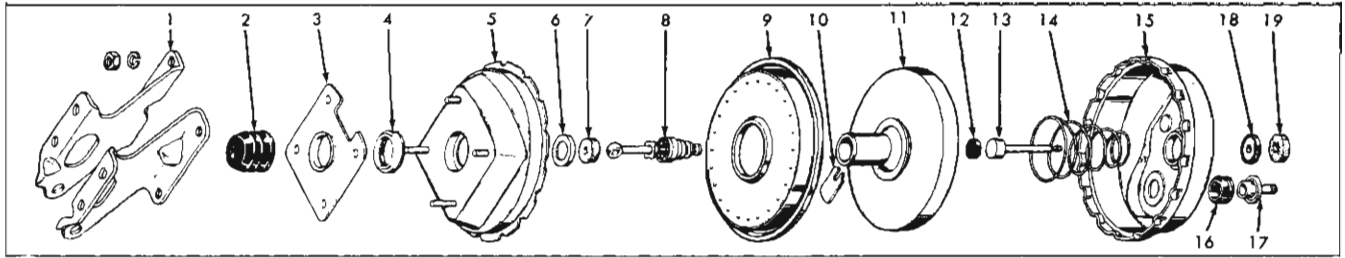

Fig. 17—Component Exploded View
2. Remove main cylinder filter, piston seal assembly and main cylinder push rod from front shell (fig. 17)—pulling the push rod from front shell will also remove the filter and seal assembly.